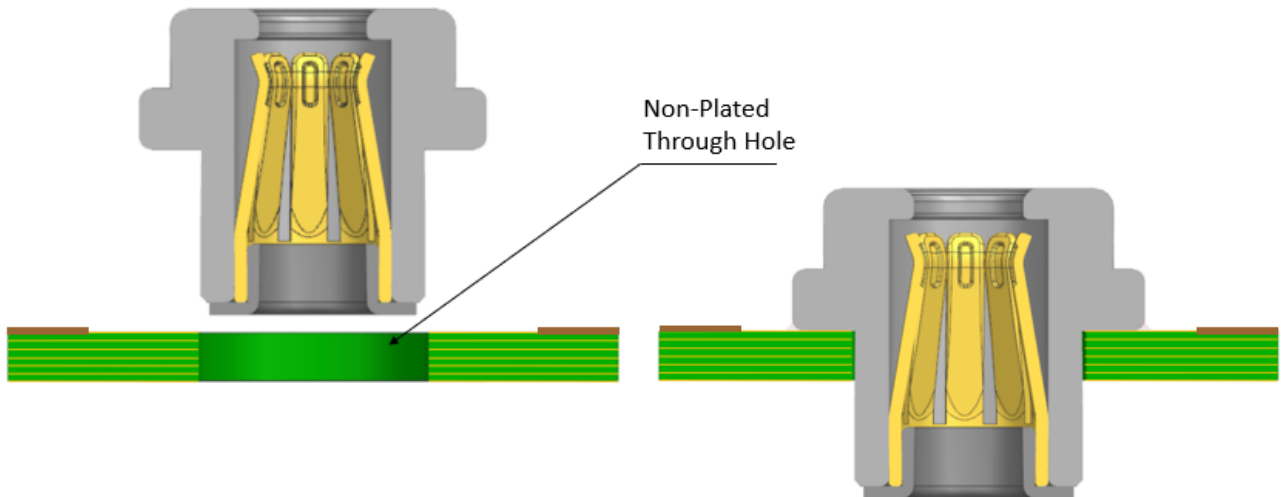

Figure 5.5.2
- b. If in case, covering the plated through hole is not possible, then it is recommended to use non plated through hole (NPTH). However, all the copper layers should be connected via thermal vias. Reference is shown in figure 5.5.2